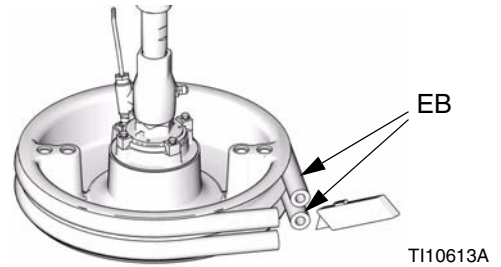

FIG. 17
1. To replace worn or damaged wipers (EB), raise platen up out of drum. Remove drum from base. Wipe fluid off of platen.
2. Cut top and bottom wipers with knife and remove from platen. See FIG. 17.